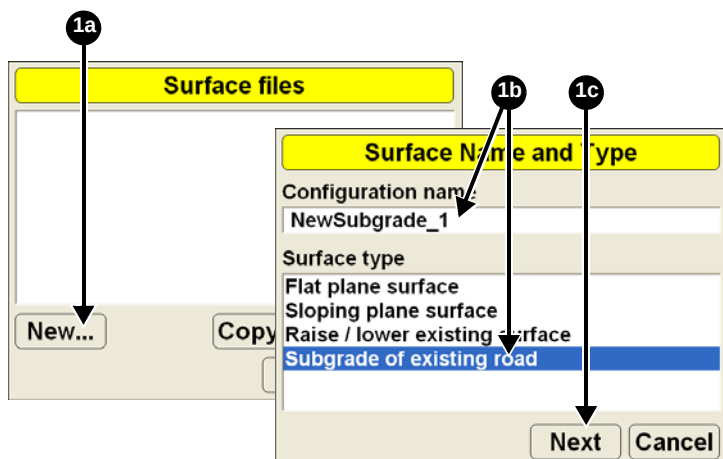

Figure 3-29. Create New Surface File
1. Press **Topcon Logo ▶ File ▶ Surfaces ▶ Working or Reference** and press **New**. Enter and select the following information for the new surface file. Press **Next** (Figure 3-29 on page 3-26).